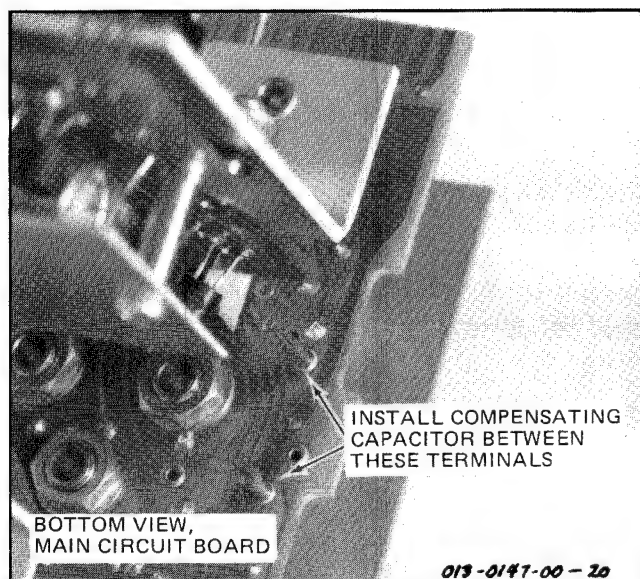
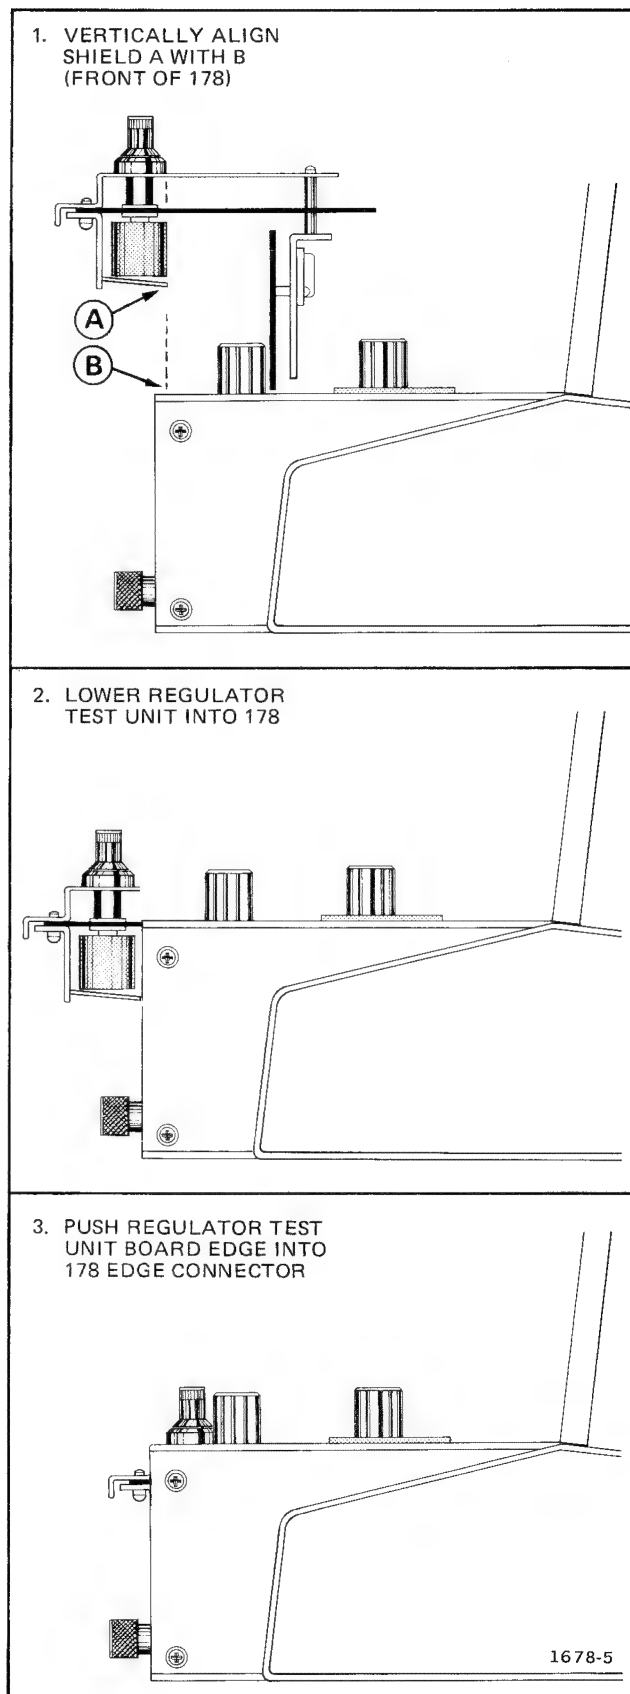

Fig. 2-5. Location of compensating capacitor terminals.
Fig. 2-6. Placing the Regulator Test Unit in the 178.
Install a compensating capacitor, if necessary, on the Regulator Test Unit circuit board, as shown in Fig. 2-5. See the device specification for capacitor value. Plug the Regulator Test Unit into the 178. See Fig. 2-6.
b. Place a compensating capacitor (value shown in regulator specification) on the Regulator Test Unit circuit board as shown in Fig. 2-5.